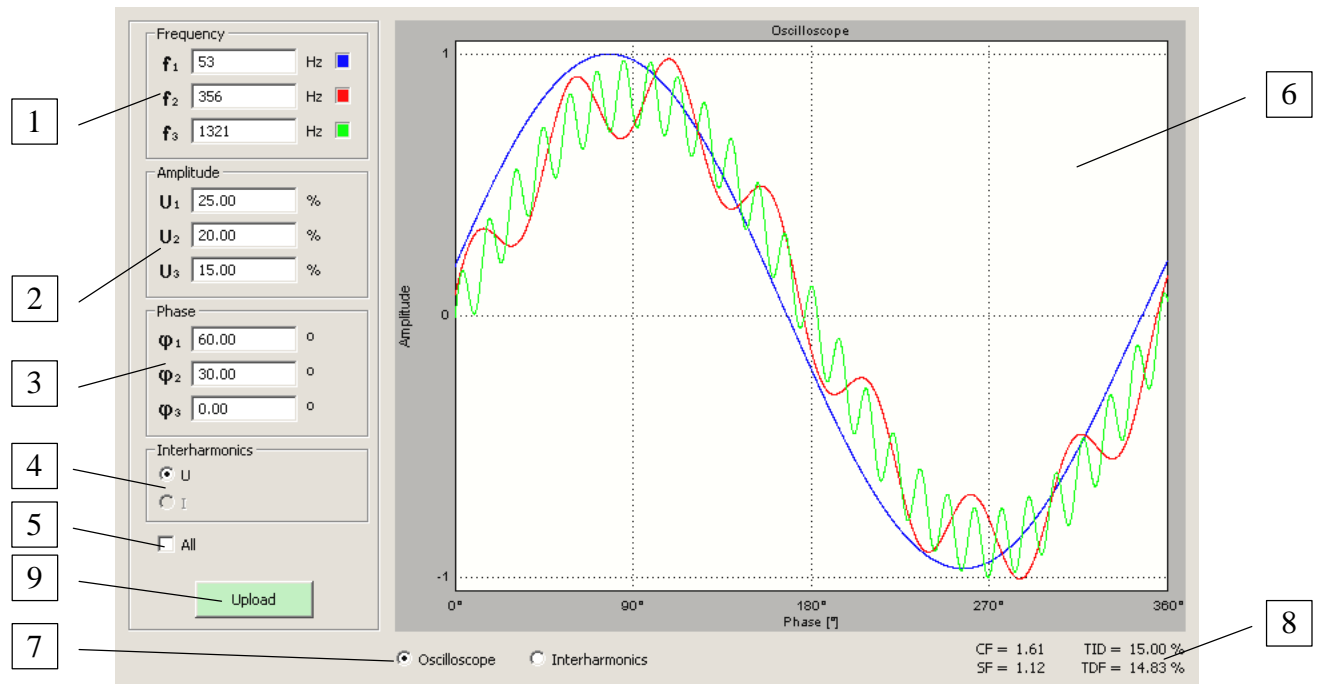
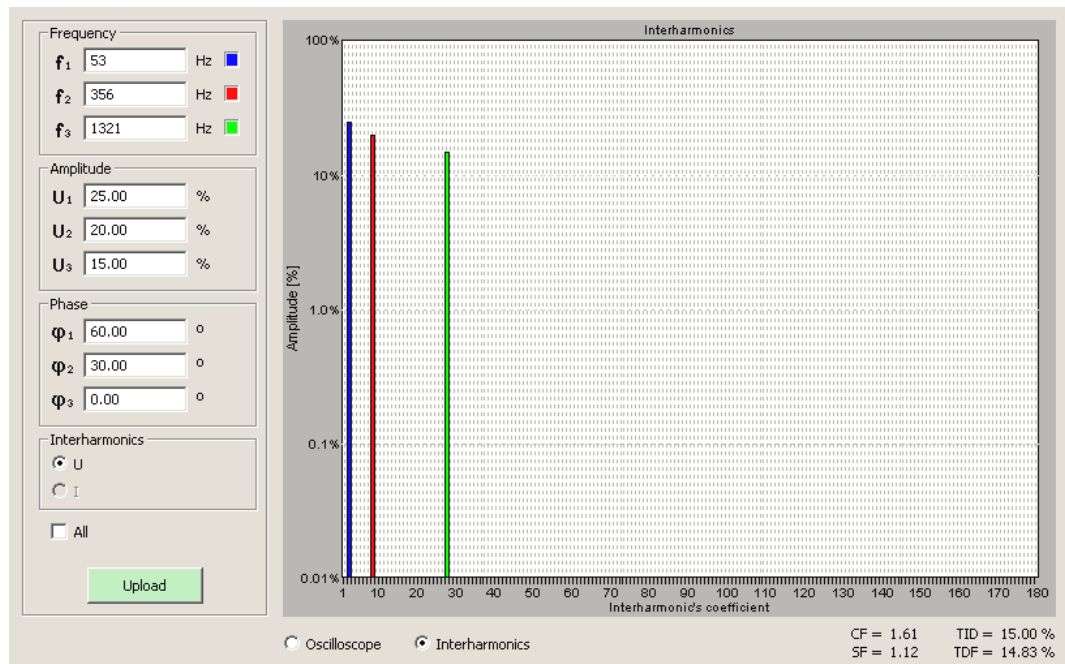

Fig.5.3. Operation field of function *Interharmonics* in *Oscilloscope* mode
Fig.5.4. Operation field of function *Interharmonics* in *Interharmonics* mode
Interharmonics function (Fig.3.5) enables setting the frequency, magnitude and phase of interharmonics (in range specified in *C300 user manual*, table 2.1). Operation field of function *Interharmonics* can work in *Oscilloscope* mode (Fig.5.3) or in *Interharmonics* mode (Fig.5.4) and contains fields as follow:
- 6 field of waveform shape visualisation for one signal period (selected mode *Oscilloscope* Fig.5.3) or bar graph diagram of interharmonics (selected mode *Interharmonics* Fig.5.4),
- 7 buttons *Oscilloscope* and *Interharmonics* – selecting mode of visualization pos.6,